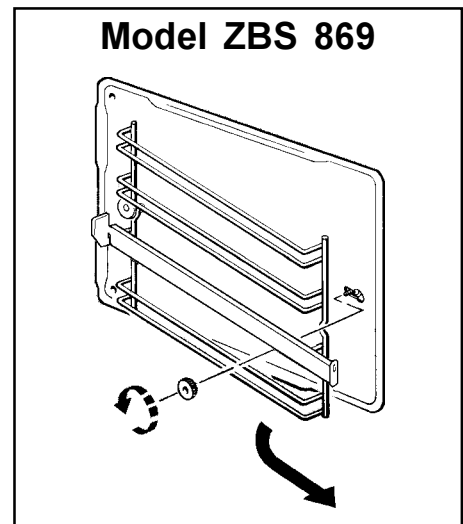

Fig. 11
**Mod. ZBS 869:** The shelf supports can be removed for easy cleaning (Fig. 11). Please, ensure the retaining nuts are secure when refitting the shelf support.